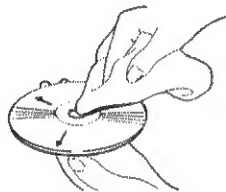

Fig. 17
- Dust and/or finger smudges will have no direct effect on the signal recorded on the disc, but dirt can decrease the amount of light reflected from the recorded surface, thus affecting sound quality. If the disc should become soiled, gently wipe the surface with a soft lint-free cloth, wiping from the center of the disc to the edge. (Fig. 17)